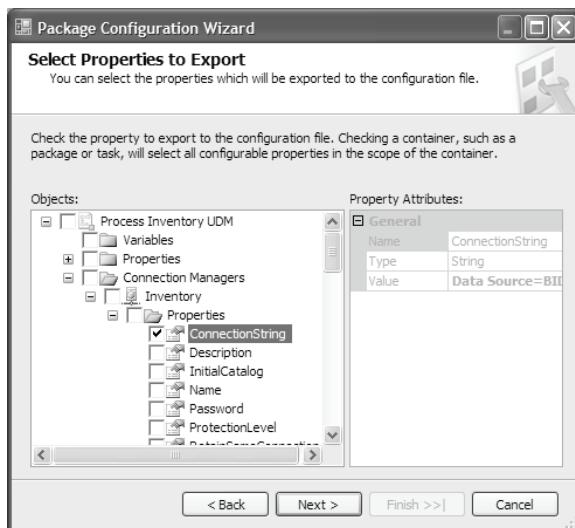

Figure 6.30 Use package configurations to maintain configuration settings easily.
4. You can make various package properties configurable. For our purposes, select the *ConnectionString* property of the Inventory Connection Manager (Figure 6.30). Click Next and name the configuration section **Inventory UDM**.